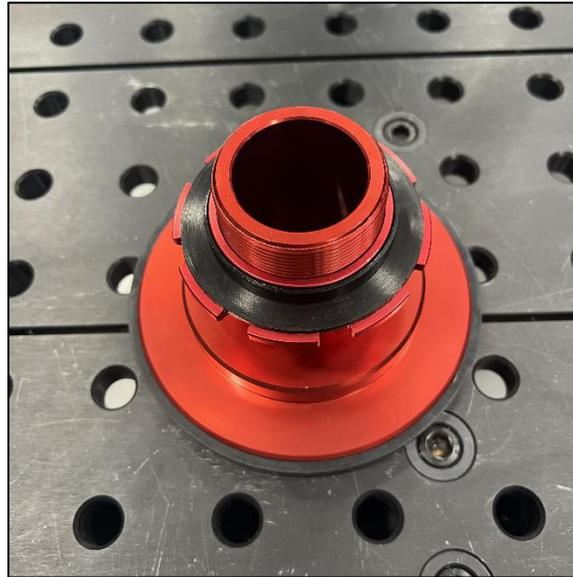

Figure 11
11. Place the Lower Rubber Seats that were removed in *Step 7* onto the Z1 Rear Springs as shown below. *Figure 11.*